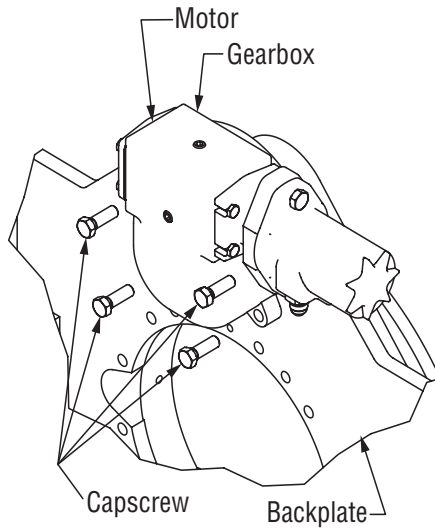

Figure 5-13, Gearbox Removal
2. Before removing the gearbox from the back plate, place a support overhead or under the gearbox. Remove the mounting capscrews from the gearbox. (Figure 5-13)